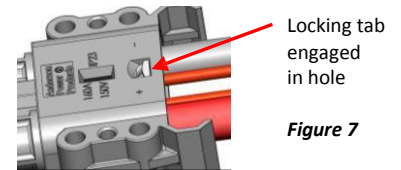

Figure 7
- c. Push from the back of the holder until the holder locking tab snaps into the rectangular opening (Figure 7)